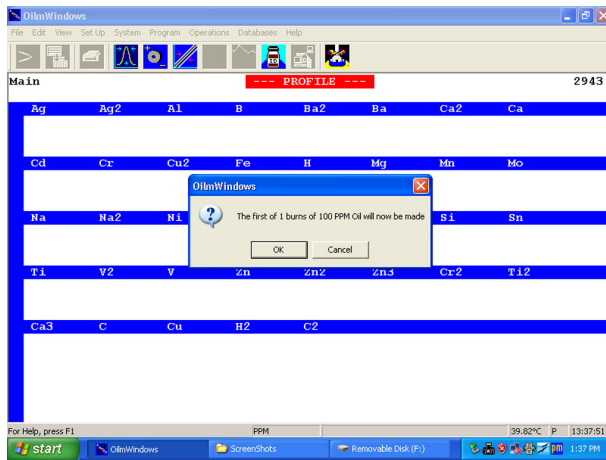

Figure 2-14, Optical Profile Screen
1. To begin the optical profile procedure press function key 4 (F4), left click the profile icon, or select Operations/Profile from the pull down menu options.
2. The screen shown in Figure 2-14 appears and calls for the first analysis of the profiling standard..